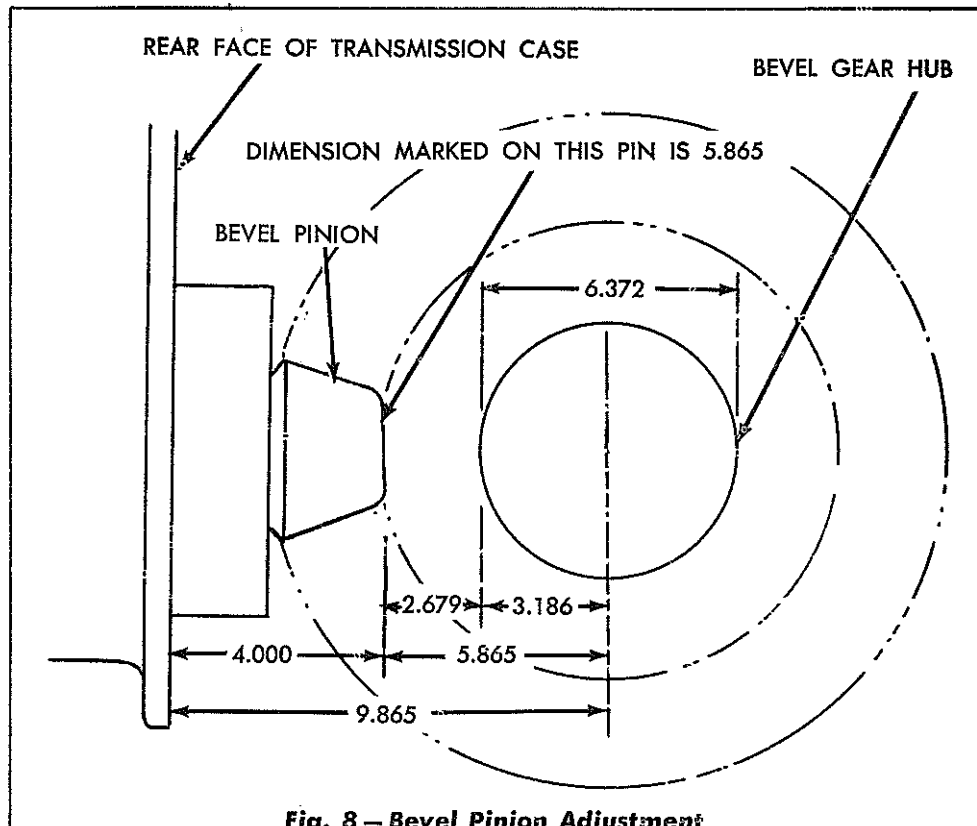

Fig. 8 – Bevel Pinion Adjustment
- q. If the bevel pinion has a mounting distance dimension marked on the face of the pinion, subtract this dimension from 9.865", which is the specified dimension from the rear mounting face of the transmission case to the center of the bevel gear hub. The difference between these two dimensions is the distance the toe end of the pinion should extend from the rear mounting face of the transmission case without the mounting gasket in place. Refer to Fig. 8.